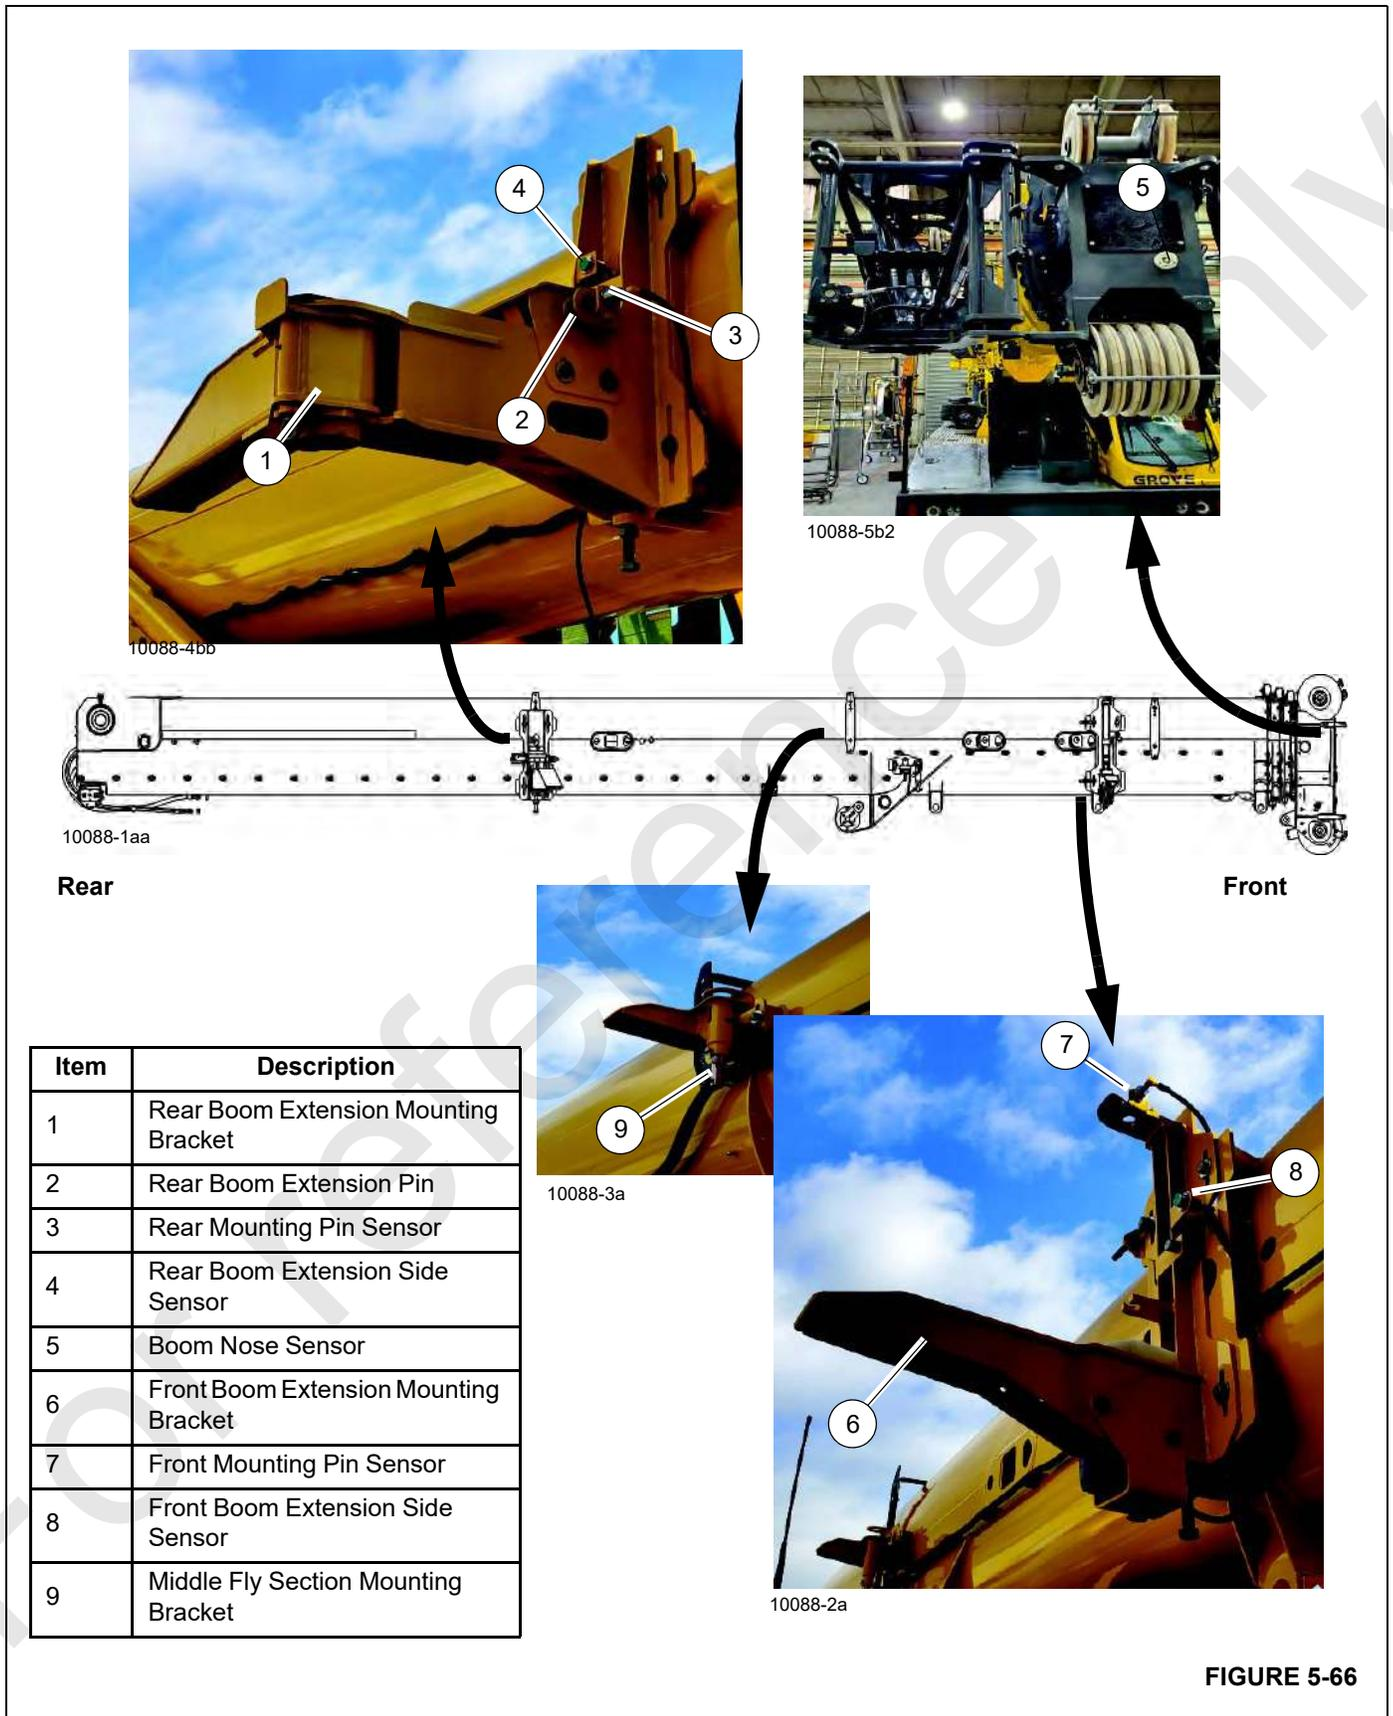

FIGURE 5-66
- Rear Boom Extension Mounting Bracket—Located nearest to the superstructure cab is the rear boom extension mounting bracket (1, (Figure 5-66)). The boom extension base section is pinned to the fly section. The fly section is secured to the side of the main boom with the electrically actuated pin (2).
- Front Boom Extension Mounting Bracket—Located nearest the boom nose is the front boom extension mounting bracket (6, (Figure 5-66)). The boom extension base section is secured to the side of the main boom with the electrically actuated pin (3, (Figure 5-65)), which is part of the Boom Extension Pin Interlock Mechanism. For more information, see “Boom Extension Pin Interlock Mechanism” on page 5-41.
- Middle Fly Section Mounting Bracket—Located near the lift cylinder pin. The middle fly section bracket (9, (Figure 5-66)) secures the fly section to the main boom.
- Rear Mounting Pin Sensor (3, (Figure 5-66))—Sends a signal to the crane control system when the rear boom extension pin is extended in the rear boom extension mounting bracket. The rear mounting pin is electrically actuated from the ODM in the operator cab.
- Rear Side Sensor (4, (Figure 5-66))—Sends a signal to the crane control system when the boom extension fly section is in the stowed position next to the boom base.
- Front Mounting Pin Sensor (7, (Figure 5-66))—Sends a signal to the crane control system when the front boom extension pin is extended in the front boom extension mounting bracket. The front mounting pin is electrically actuated from the ODM in the operator cab. For more information, see “Boom Extension Pin Interlock Mechanism” on page 5-41.
- Front Side Sensor (8, (Figure 5-66))—Sends a signal to the crane control system when the boom extension base section is against the front stowage bracket.
- Boom Nose Sensor (5, (Figure 5-66))—Sends a signal to the crane control system when the boom extension or auxiliary boom nose is in the erected position.